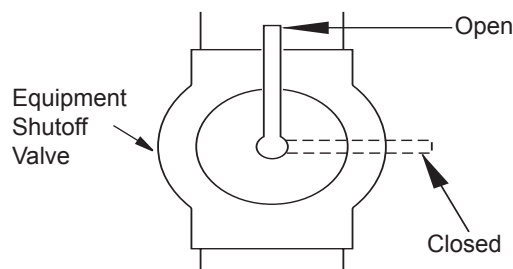

Figure 13 - Equipment Shutoff Valve
1. Close equipment shutoff valve (see Figure 13).
1. Open equipment shutoff valve (see Figure 13, page 9).